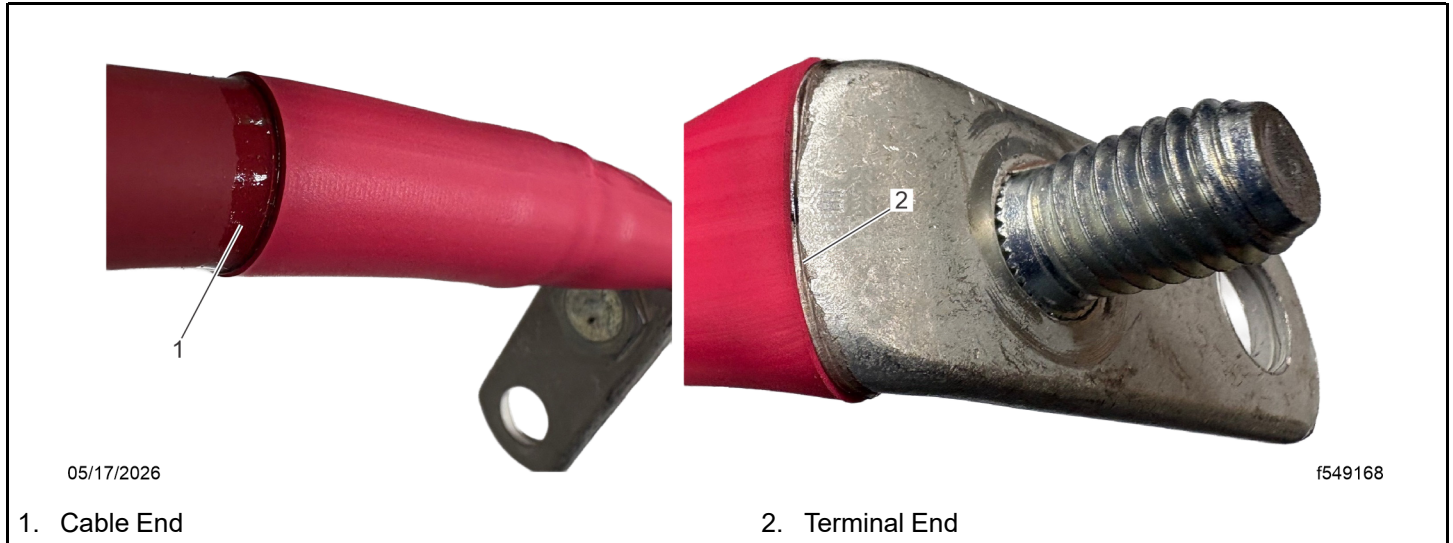

Fig 78, Continuous Adhesive Seal at Cable and Terminal Ends
- Confirm a continuous ring of adhesive can be seen around the circumference of the sleeve at both ends. See Fig. Fig. 78.